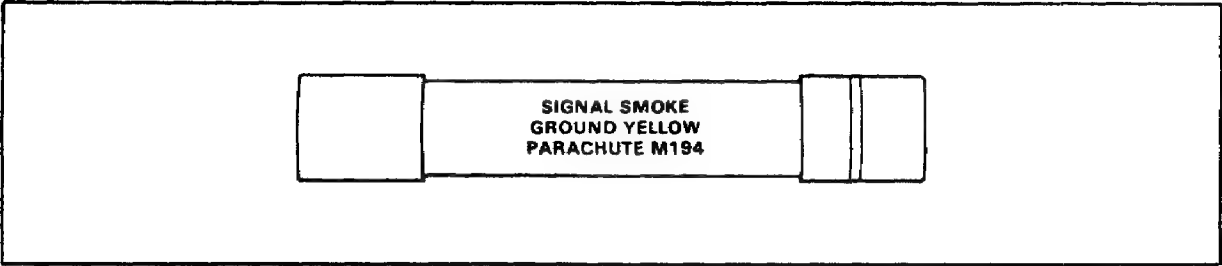

Figure 104. Ground Signal.
**Ground Signals.** Ground signals are available in the same signal patterns as aircraft signals, but the markings are not color coded the same way. The color and type of signal are printed in black on an aluminum body. The signal shown in Figure 104 is approximately 10 inches long and 1 1/2 inches in diameter. It is self-contained and needs no launching system. A cap on the forward end holds a firing pin. The percussion primer is in the opposite end. To make the signal function, the cap with the firing pin is removed from the front end and placed over the back end, aligning the firing pin with the primer. The front end is then pointed upward, and the cap is hit sharply with the palm of the hand. This ignites a small rocket motor. The rocket motor propels the signal to an altitude of 650 to 700 feet. At this altitude, an expelling charge ejects and ignites the signal. The signal may be freefalling stars, parachute-supported stars, or colored smoke.